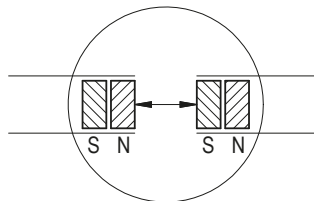

Fig. 9: Determination of the pole position. Joining the magnetic strip
6. Check polarity before joining the two parts. Both ends must attract each other (if necessary, use compass needle). In case both ends have the same polarity, shorten one end by a half pole division (see Fig. 9).